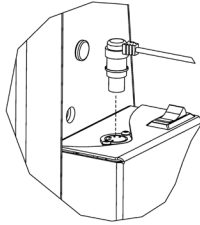

Figure 4-49
5. Plug Hand Controller into lift. **See Figure 4-49.**